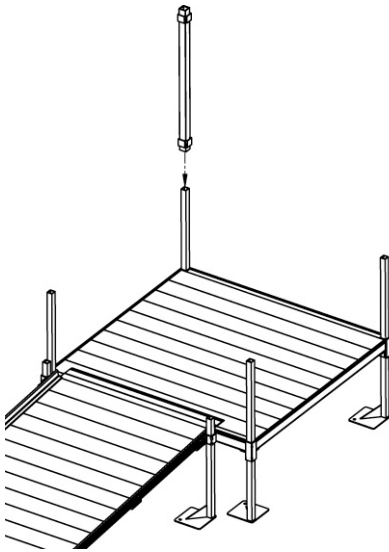
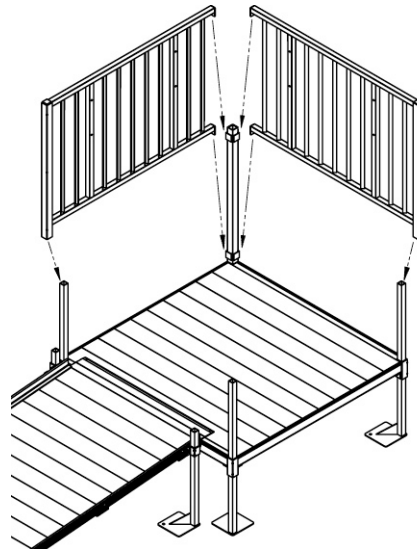
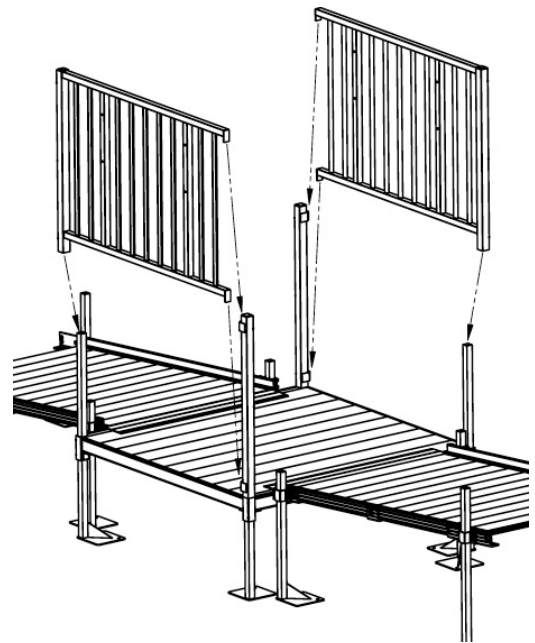

FIG. 22
FIG. 23
FIG. 28
- 2.6 If the system requires an intermediate "resting" platform, the ramps must be positioned in the center of the platform (see FIG. 28 and FIG. 34).
- 5.2 There are three basic platform arrangements: turn, turn-back, and straight through. Select appropriate guardrail installation and assemble rails as shown in FIG. 22 through FIG. 28.
- 5.3.1 Place one guard post over the support leg extending out of the platform corner pocket, opposite both the door and ramp side (FIG. 22). Do not tighten. **Note:** Tab brackets should be oriented toward the inside.
- 5.3.2 Place two 5 ft. guards over support legs protruding out of platform corner pockets adjacent to guard post (FIG. 23) and engage tabs on guard section into tab brackets on guard post. Do not tighten setscrews.
- 5.6 If platform is used as a straight through resting platform (FIG. 28):
- 5.7.1 Installation of the guards at a corner is the same as turning into a door at the top of the system. Refer to FIG. 22 and FIG. 23.
- 5.7.2 Installation of the guards in a straight run is similar except that only one guard section & post are needed so the unused tab brackets on the post should be oriented to the outside of the deck & capped (same as FIG. 28).